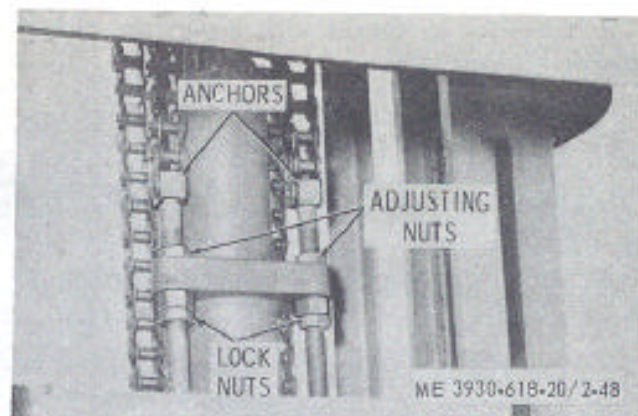

Figure 2-48. Lift chain adjustment.
*c. Adjustment.* When it is apparent that the carriage assembly is not level or the forks do not touch the floor when the lift cylinder is fully retracted, the lift chains must be adjusted. Refer to figure 2-48 and proceed as follows:
(1) Make sure that the mast is vertical and the inner mast and lift cylinder are fully retracted.
(2) Loosen the locknuts and adjusting nuts at the chain anchors on the lift cylinder.
(3) Adjustment is made by turning the adjusting nuts. Tighten or loosen one side and then the other until the chains are a snug fit.
(4) Make sure the tension is equal and the carriage assembly is level.
(5) Tighten locknuts. Make sure the adjustment is not disturbed.